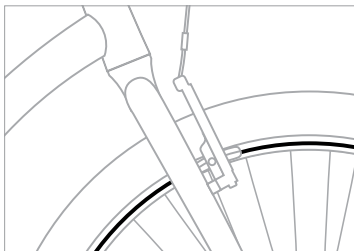

Figure 2.1 Aluminum rim wear-indicator.
- A shallow groove around the circumference of the rim (Figure 2.1). If the groove is no longer visible in any spot, replace the rim.